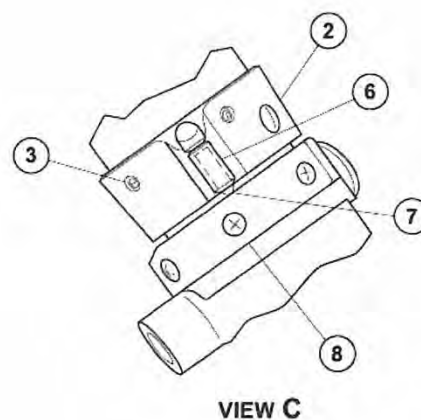
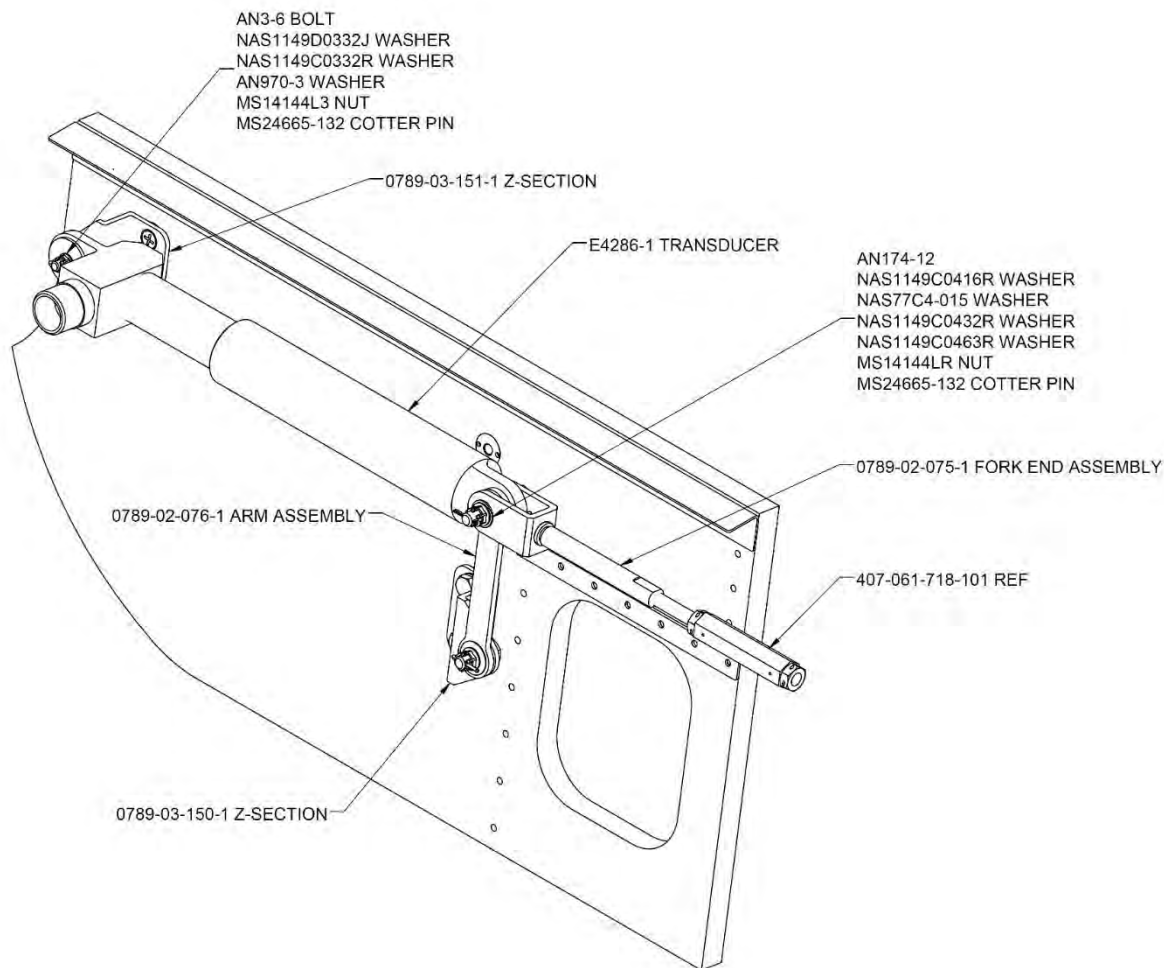

Figure 76-10: Throttle/Fly Detent Rigging
Figure 76-11: PLA Assembly
3. Remove fork end from adapter by loosening the nut. See Figure 76-11.
2. Install PLA LVDT on the PLA bracket with bolt, washers and nut. See Figure 76-11.
11. Monitor the PLA indication. Should read $0^{\circ} \pm 3^{\circ}$ in both channels. If necessary adjust this position by adjusting the fork end adapter. (Figure 76-11)
Refer to Figure 76-9, Figure 76-10, and Figure 76-11 for the following procedures.
Depress the idle release button during the following step. Friction will increase as ball plunger (6, Figure 76-10) rides on surface of detent block (8).
3. Turn the pilot's throttle to pull the ball plunger (6, Figure 76-10) near the groove of the FLY detent (7). Pull the fish scale to move the ball plunger in and out of the groove. Verify the fish scale value is 14 to 15 ± 0.5 pounds (6.3 to $6.8 \pm 0.23\text{kg}$) when the plunger is pulled through the detent.
1. Adjust the ball plunger (6, Figure 76-10) so that it does not contact face of detent block (8). If ball plunger has lost its thread locking capability, replace with new unit.
7. To adjust the throttle friction grip setscrew (1) to get a fish scale value of 10 ± 0.5 pounds (4.5 ± 0.23 kg), after the initial breakaway force, do the procedures that follows:
- c. Adjust setscrew (1) to get the required friction value.
8. Adjust the ball plunger (6, Figure 76-10) to the depth that lets it lightly contact the face of detent block (8).
9. To adjust the ball plunger (6) to get a peak rotational value between 4 to 5 pounds (1.8 to 2.3 kg) in excess of throttle friction adjustment in step 7, when the ball plunger rides through groove of the FLY detent (7), do the procedure that follows:
- a. Turn the throttle grip assembly (1) to put the ball plunger (6) near the groove of the FLY detent (7).
- b. Wrap a suitable length of cord (C-480), or equivalent around the pilot's throttle grip assembly (1) and attach a fish scale to the cord.
- c. Pull the fish scale to move the ball plunger (6) in and out of the groove. Adjust the ball plunger to make sure the fish scale value is 14 to 15 ± 0.5 pounds (6.3 to 6.8 ± 0.23 kg) when the plunger is pulled through groove of the FLY detent (7).
10. Following the throttle and FLY detent friction adjustments, make sure the operation of the throttle is smooth and that a positive indication is felt when the ball plunger (6) is engaged in the FLY detent (7). If applicable, also use the copilot's throttle to confirm a positive indication is felt in the FLY Detent.